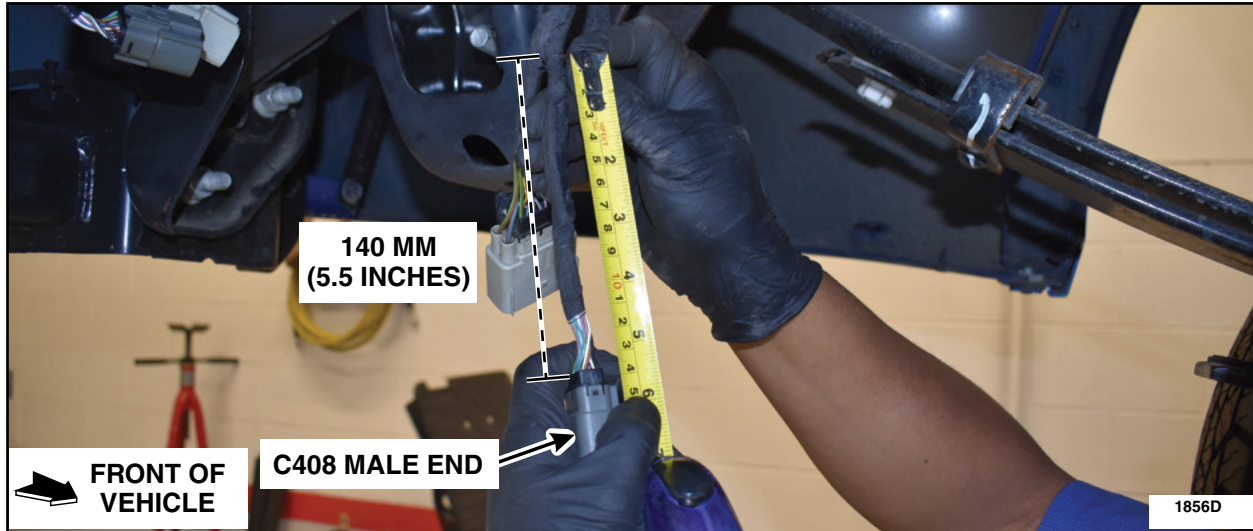

FIGURE 58
5. Measure 140 mm (5.5 in) from the back of the male end of C408. Remove 140 mm (5.5 in) of tape to expose the wires. See Figure 58.